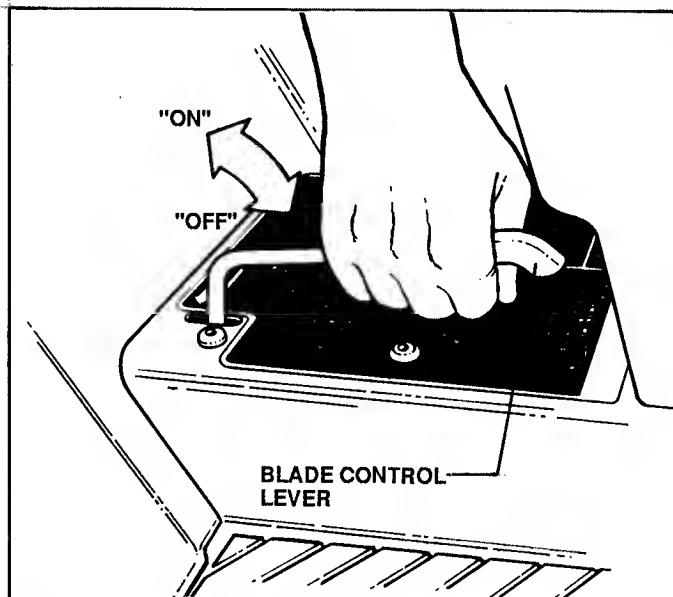
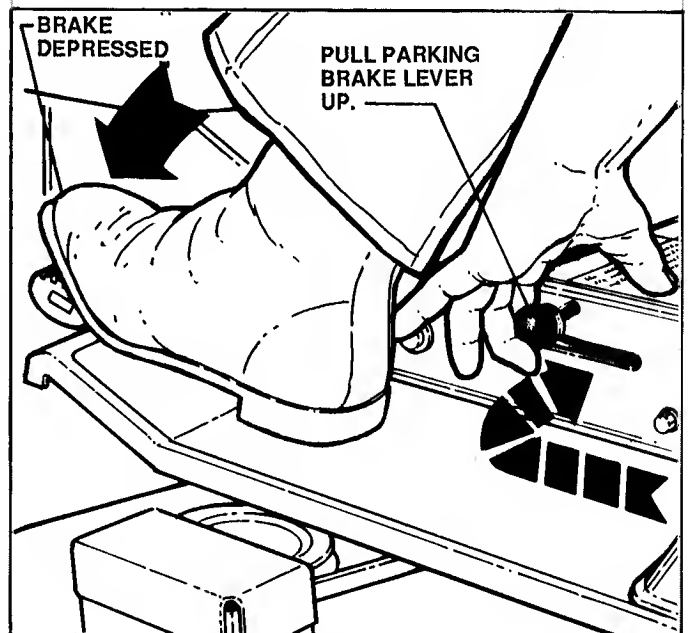

FIGURE 4
FIGURE 7
**MOWER BLADE:** *STOP MOWER BLADE* by pushing BLADE CONTROL lever downward to "OFF". See Figure 4.
1. PUSH **BLADE CONTROL LEVER** downward to "OFF" position (Fig. 4) and fully depress the **CLUTCH/BRAKE pedal** (Fig. 7), so that Safety Interlock System will allow engine to start.
Depress **CLUTCH/BRAKE PEDAL**. Pull **PARKING BRAKE LEVER** "UP" while releasing pedal. See Figure 7.